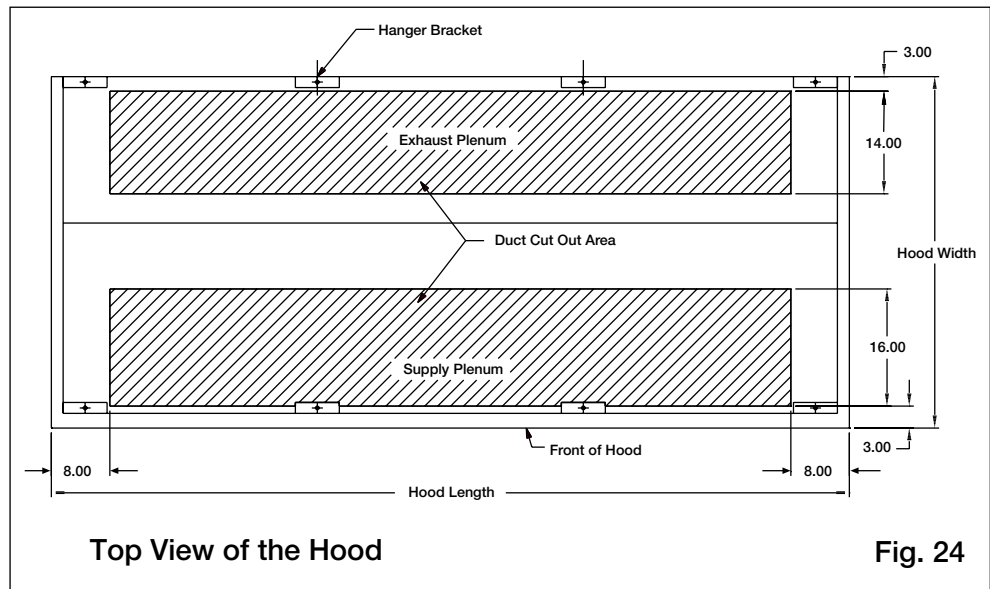

Fig. 24
1. The exhaust duct connection needs to be located within 48 in. (121.92 cm) from the center of the hood length to the center of the duct connection. (see Fig. 24, back view Fig. 25)